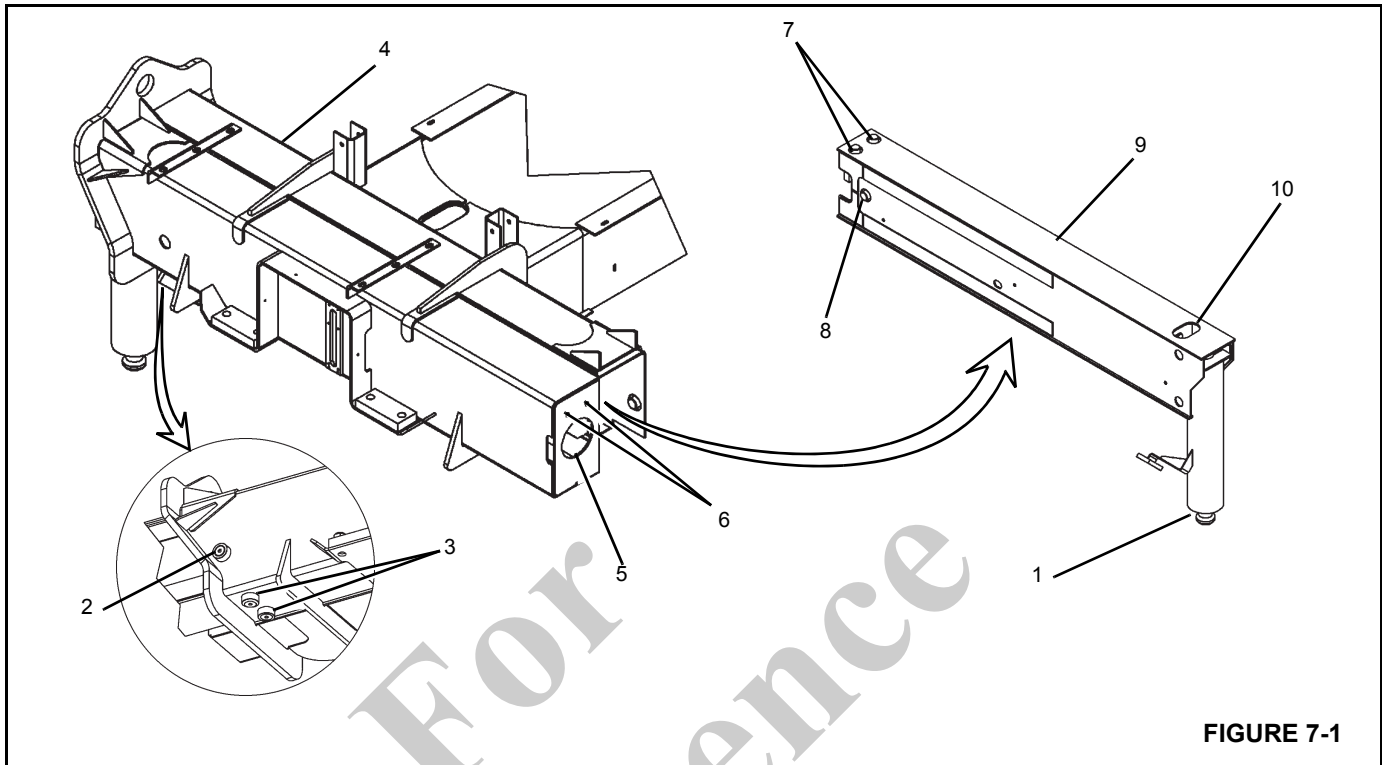

FIGURE 7-1
9. Remove the wear pad set screws in the top of the outrigger beam and back off the top wear pads (7) (Figure 7-1). Access is through the access hole in the end of the outrigger box (5) (Figure 7-1).
10. Remove the wear pad set screws on the side of the outrigger beam and back off the side wear pads (8).
There are 7 adjustable wear pads on each outrigger. Three wear pads are on the outrigger box and can be accessed from the outside. Four wear pads are on the outrigger beam and are adjusted from inside the outrigger beam. See items (7) and (8) in Figure 7-1. To adjust the wear pads following procedure: